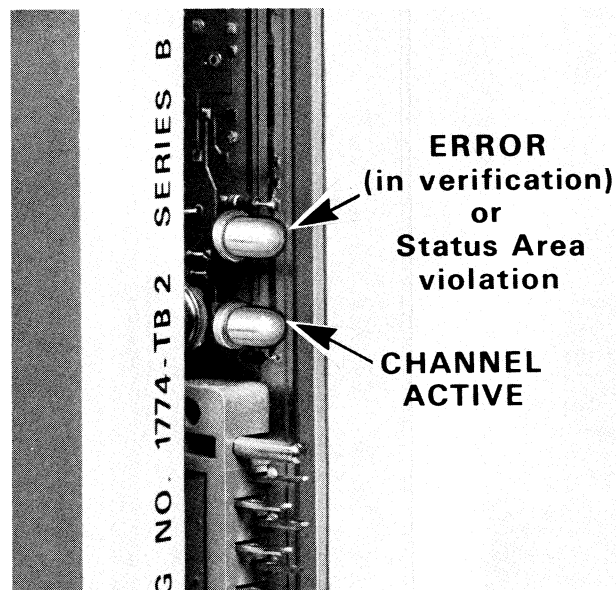

Figure 1 – Diagnostic Indicators
1.2 Indicators — The Program Panel Interface Module has two red diagnostic indicators located directly above its front connector. (Refer to Figure 1.) These are: